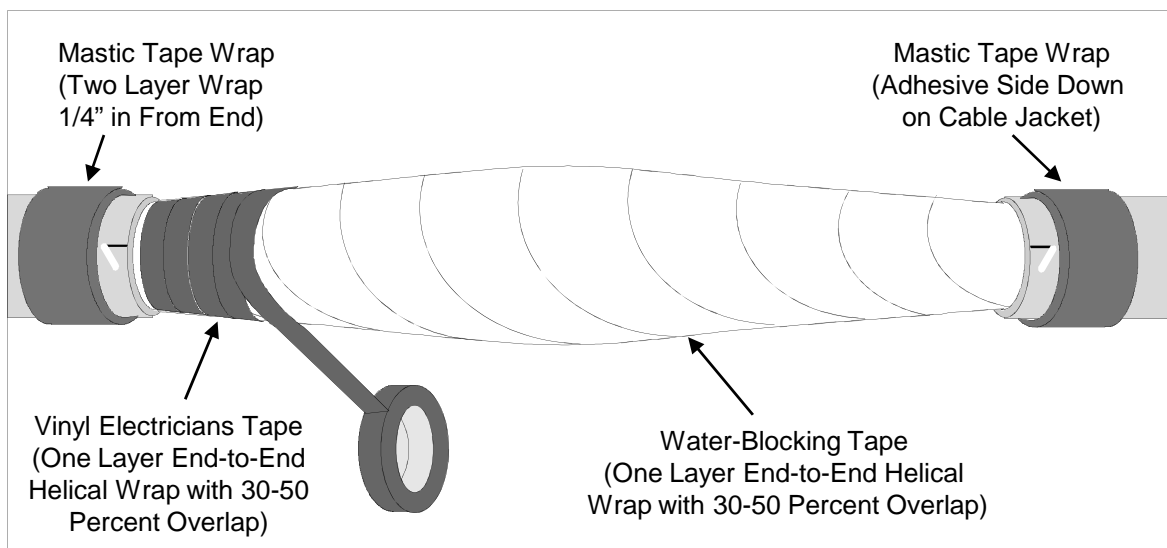

Figure 6
7.6 After the tubes are tested, waterproof each splice point by wrapping the exposed tubes with water blocking tape and applying mastic tape wraps on the tube cable jacket ends. **See Fig. 6.**